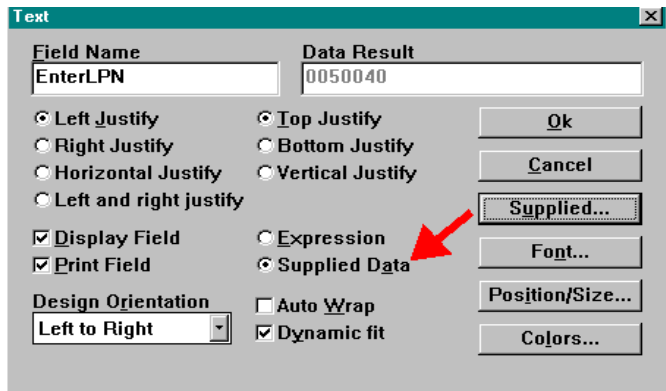
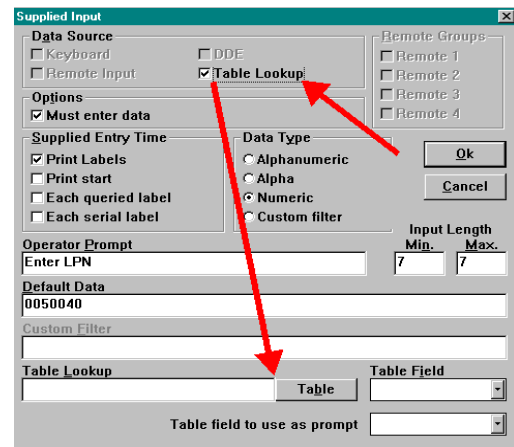
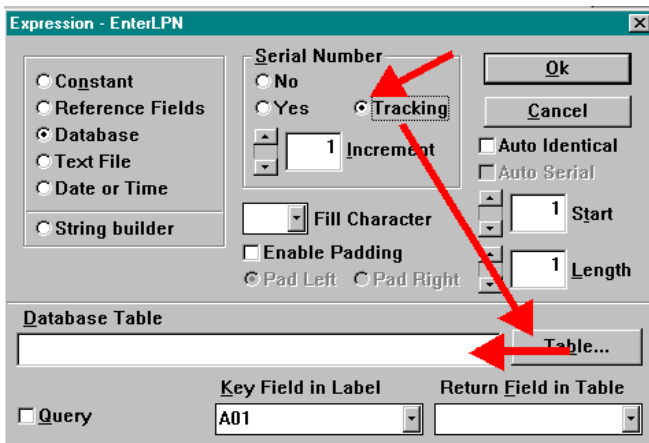
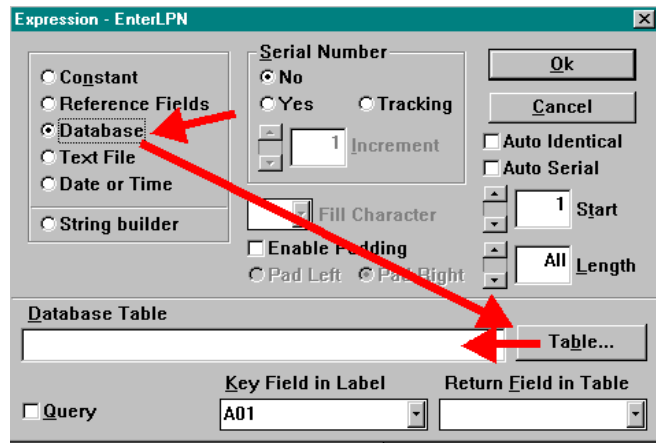

Figure 2-1a
Figure 2-1b
Figure 2-1c
Figure 2-1d
2.1.3. Look for any fields on the labels that access a database. These can be fields that use *Supplied Data* (Figure 2-1a) with a *Table Lookup* (Figure 2-1b), a *Tracking Serial Number* (Figure 2-1c), or a field with an expression type of *Database*. (Figure 2-1d)